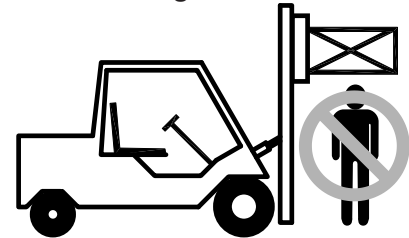

Figure 3-2
- Never allow anyone under a load or under the carriage. (Figure 3-2)